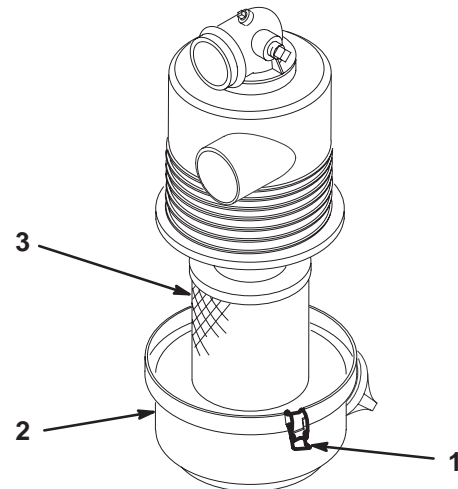

Figure 21
3. Release the latches securing the air cleaner cover to the air cleaner body. Separate the cover from the body. Clean the inside of the air cleaner cover (Fig. 21).
4. Gently slide the filter out of the air cleaner body to reduce the amount of dust dislodged (Fig. 21). Avoid knocking the filter against the air cleaner body.